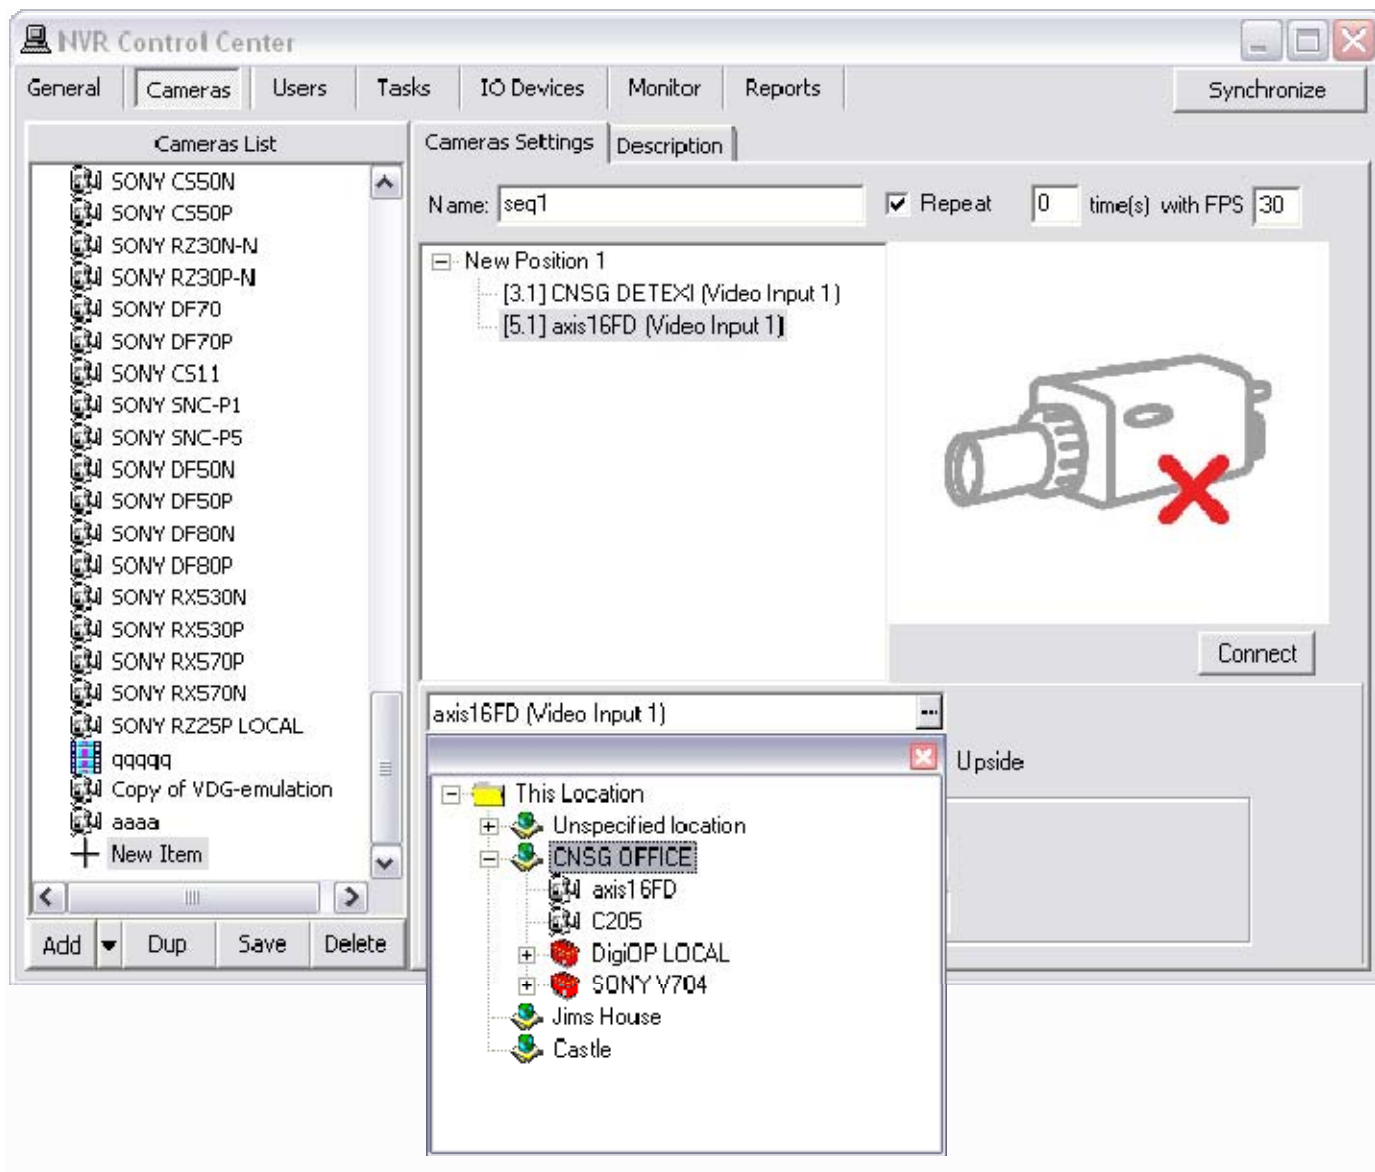

Fig 41. NVR Control Center — Cameras — Cameras Settings
3. **Right-click** on the position item and choose **Add Camera** to add a video stream to the sequence position (Fig 41).